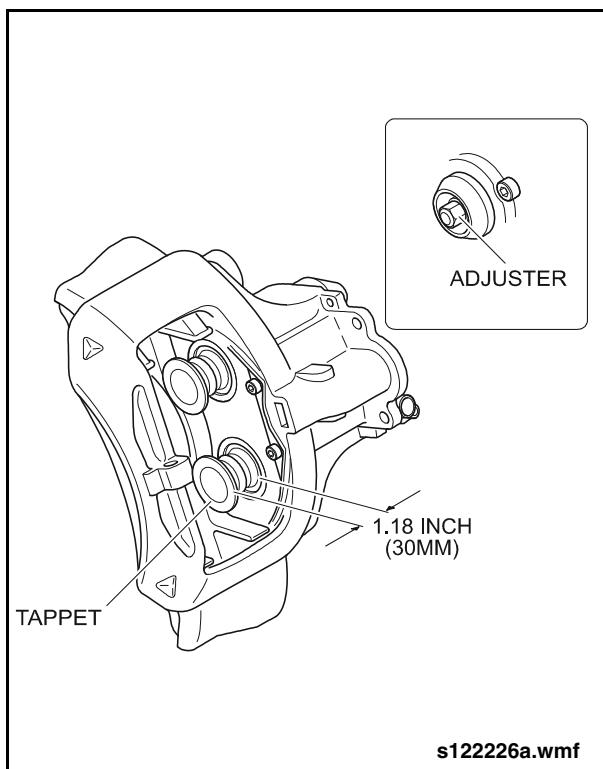

Fig. 2-132: Unscrewing Tappets
2. Rotate the adjuster clockwise until the tappets extend approximately 1.18" (30) from the caliper surface. This will allow full extension of the tappet rubber boot for insertion of the removal tools. See "Fig. 2-132: Unscrewing Tappets" on page 116.